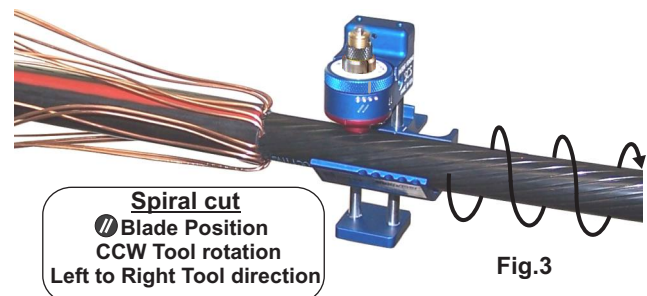

Fig.3
**3. Spiral cut: (Fig.3)** With the tool still in place on the cable, turn the blade positioning knob to one of the spiral cut locations. The ● symbols represent relative semi-con diameters, and assist in setting the best tool pitch for various cable sizes. The tool pitch is most aggressive at the smallest ●. Turn the tool counter clockwise and allow it to advance toward the end of the cable, and completely off the cable.